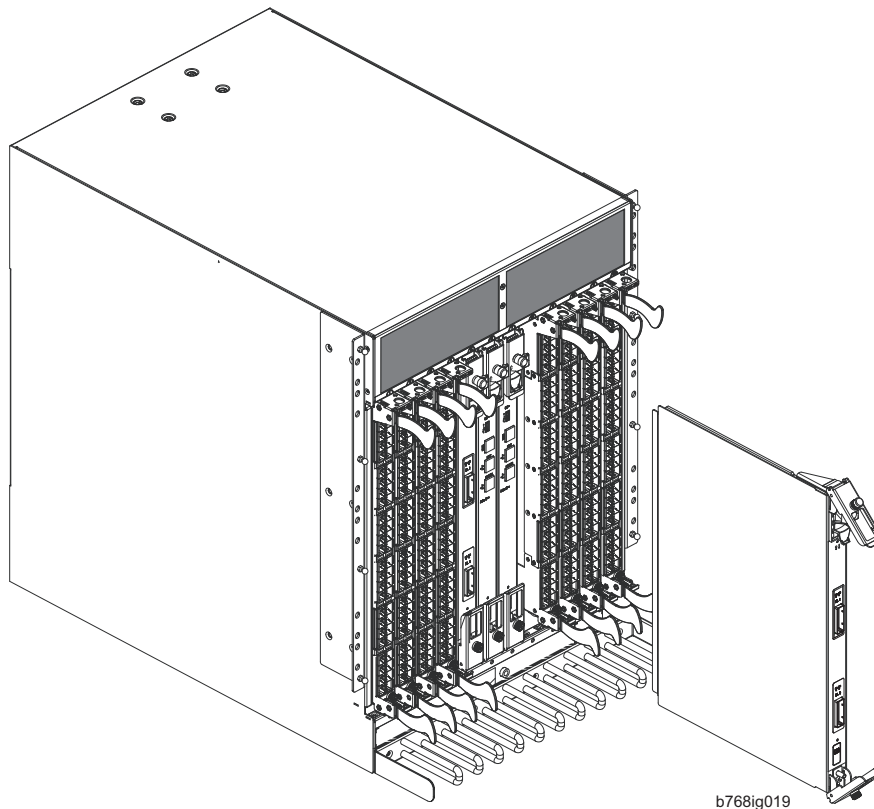

Figure 32. Removing the core switch blade
This section describes how to remove and install a core switch blade. Each SAN768B has two core switch blades: one in slot 5 and one in slot 8. Note that the blade in Figure 32 on page 78 is shown with EMI plugs installed.
2. Power off the blade by sliding the slider switch in the top ejector down to the off position (see Figure 32 on page 78). Do not eject the blade until the power LED has gone off and you have completed the next two steps.
5. Open both ejectors simultaneously to approximately 45 degrees and pull the core switch blade out of the chassis (see Figure 32).